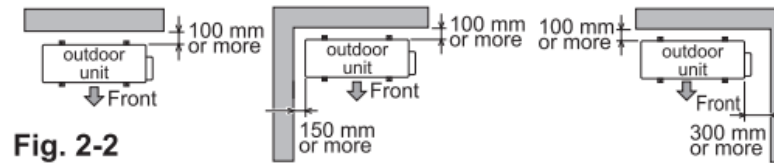

Fig. 2-2
■ When there is no obstruction at the front (discharge side) (Top view)(Fig. 2-2)